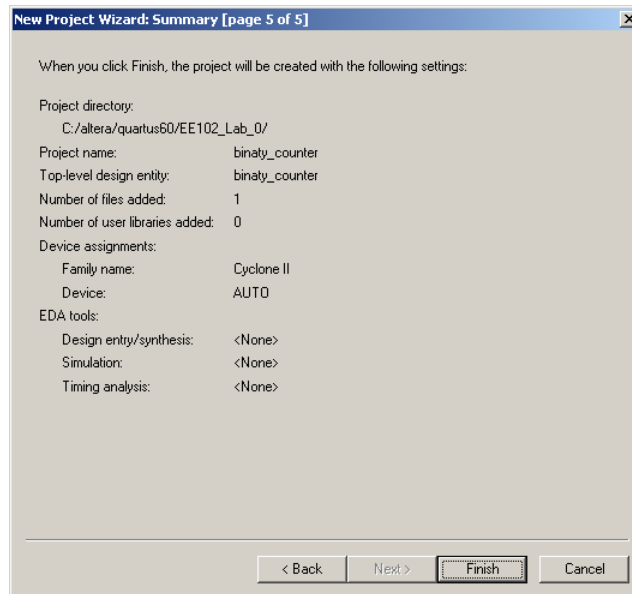

Figure 9 – Summary of project settings
Step 5: A summary of the chosen settings appears in the screen similar to that shown in Figure 9 but with **binary_counter** specified as the new project.